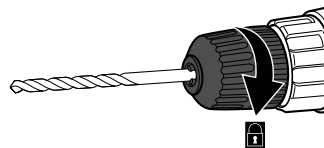

Fig. 3
3. Hold the keyless chuck (3) in position and turn the chuck sleeve (2) clockwise until the drill bit is properly fastened in the chuck jaws (1) (Fig. 3).